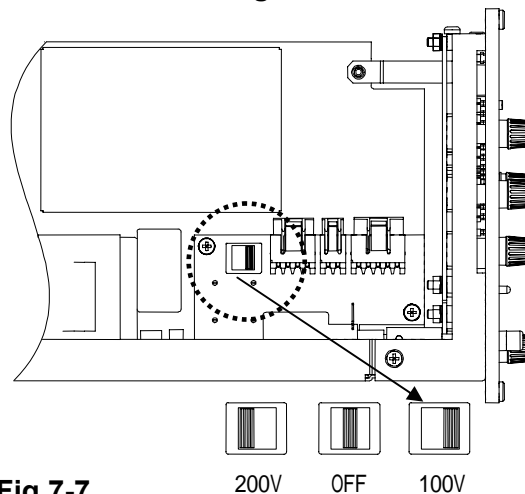

Fig.7-7
3. The AC power supply selection switch is positioned at the location shown in Fig. 7-7. Selection to 200 VAC, OFF, and 100 VAC is available. Voltage switching is available by sliding the switch to the target voltage position. The fuse can support both 100 VAC and 200 VAC. The installed fuse (100 VAC/200 VAC, 125mA:0334-3007) can therefore be used for both supply voltages.